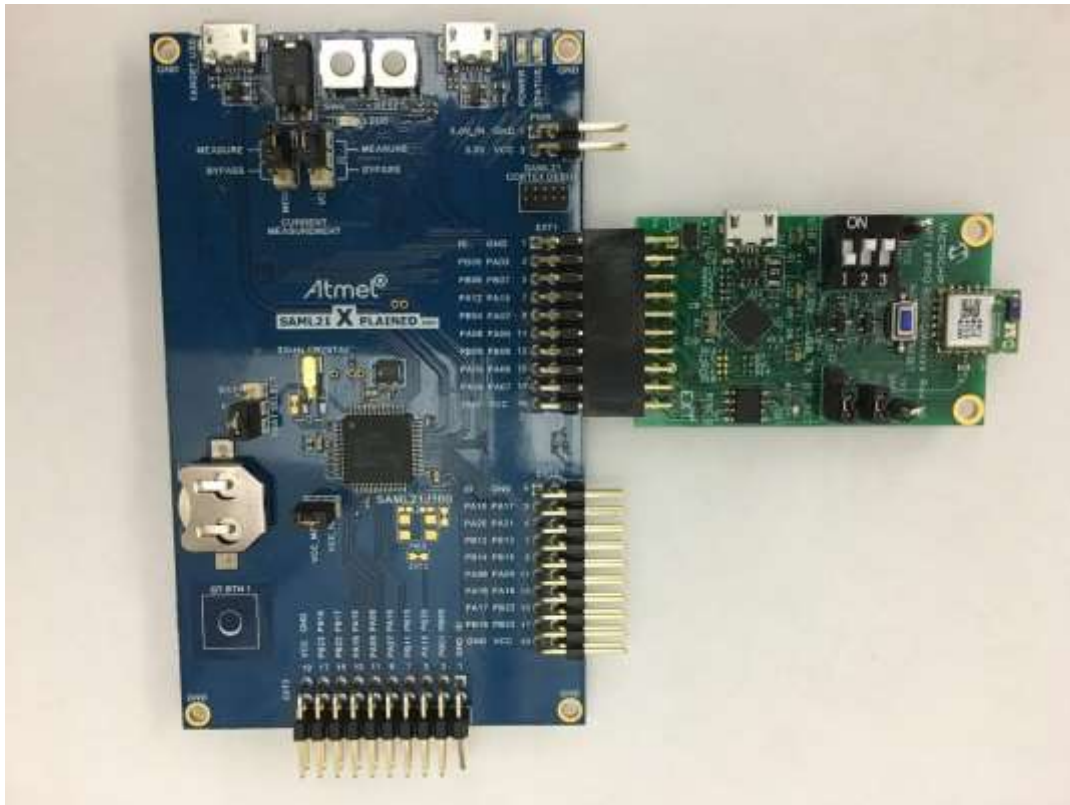

Figure 2: BM71-XPro connected on EXT1 of SAML21 Xplained Pro
1. Plug in the BM71-XPro board into EXT1 of SAML21 Xplained Pro board as shown in Figure 2.